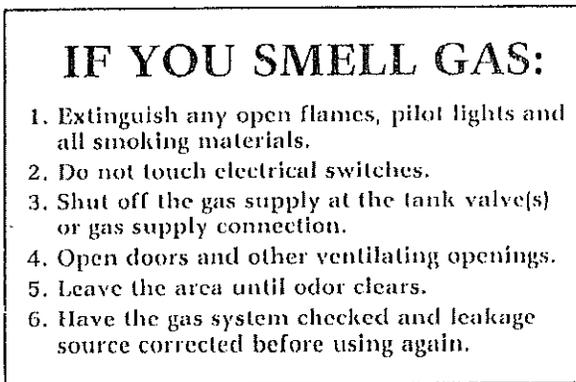

Figure 2
20. This warning label (figure 2) has been placed in the vehicle near the range area.